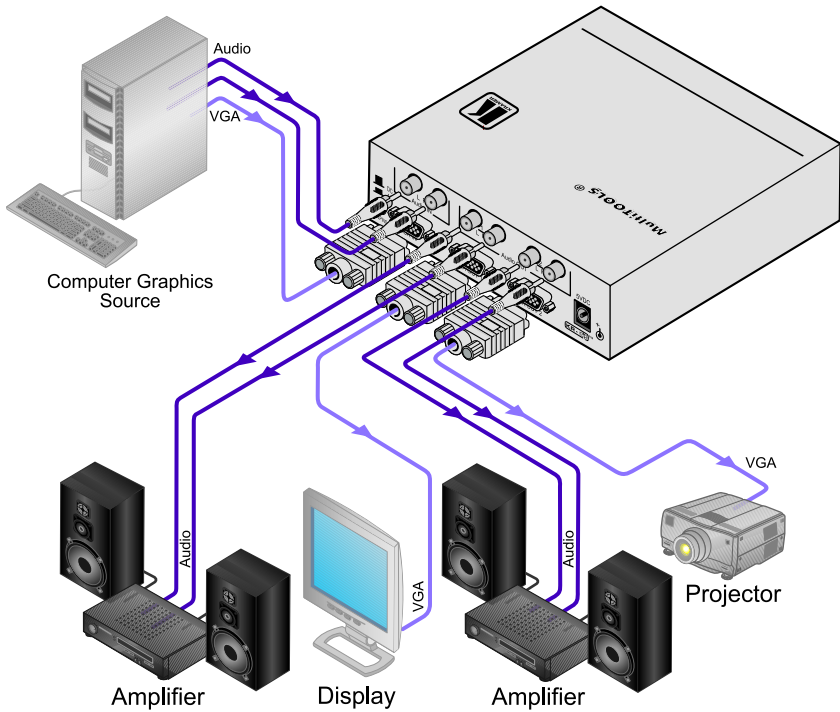

Figure 2: Connecting the VP-2K 1:2 UXGA / Audio Distributor
To connect the **VP-2K**, as the example in *Figure 2* illustrates:
1. Connect a computer graphics source to the UXGA IN 15-pin HD (F) connector and to the R and L AUDIO IN RCA connectors.
2. Connect the UXGA OUT 15-pin HD (F) connectors to up to two acceptors (for example, a display and a projector) and connect the respective R and L AUDIO OUT RCA connectors to audio acceptors (for example, two amplifiers with speakers).
3. Connect the 5V DC power adapter to the power socket and connect the adapter to the mains electricity (not illustrated in *Figure 2*).